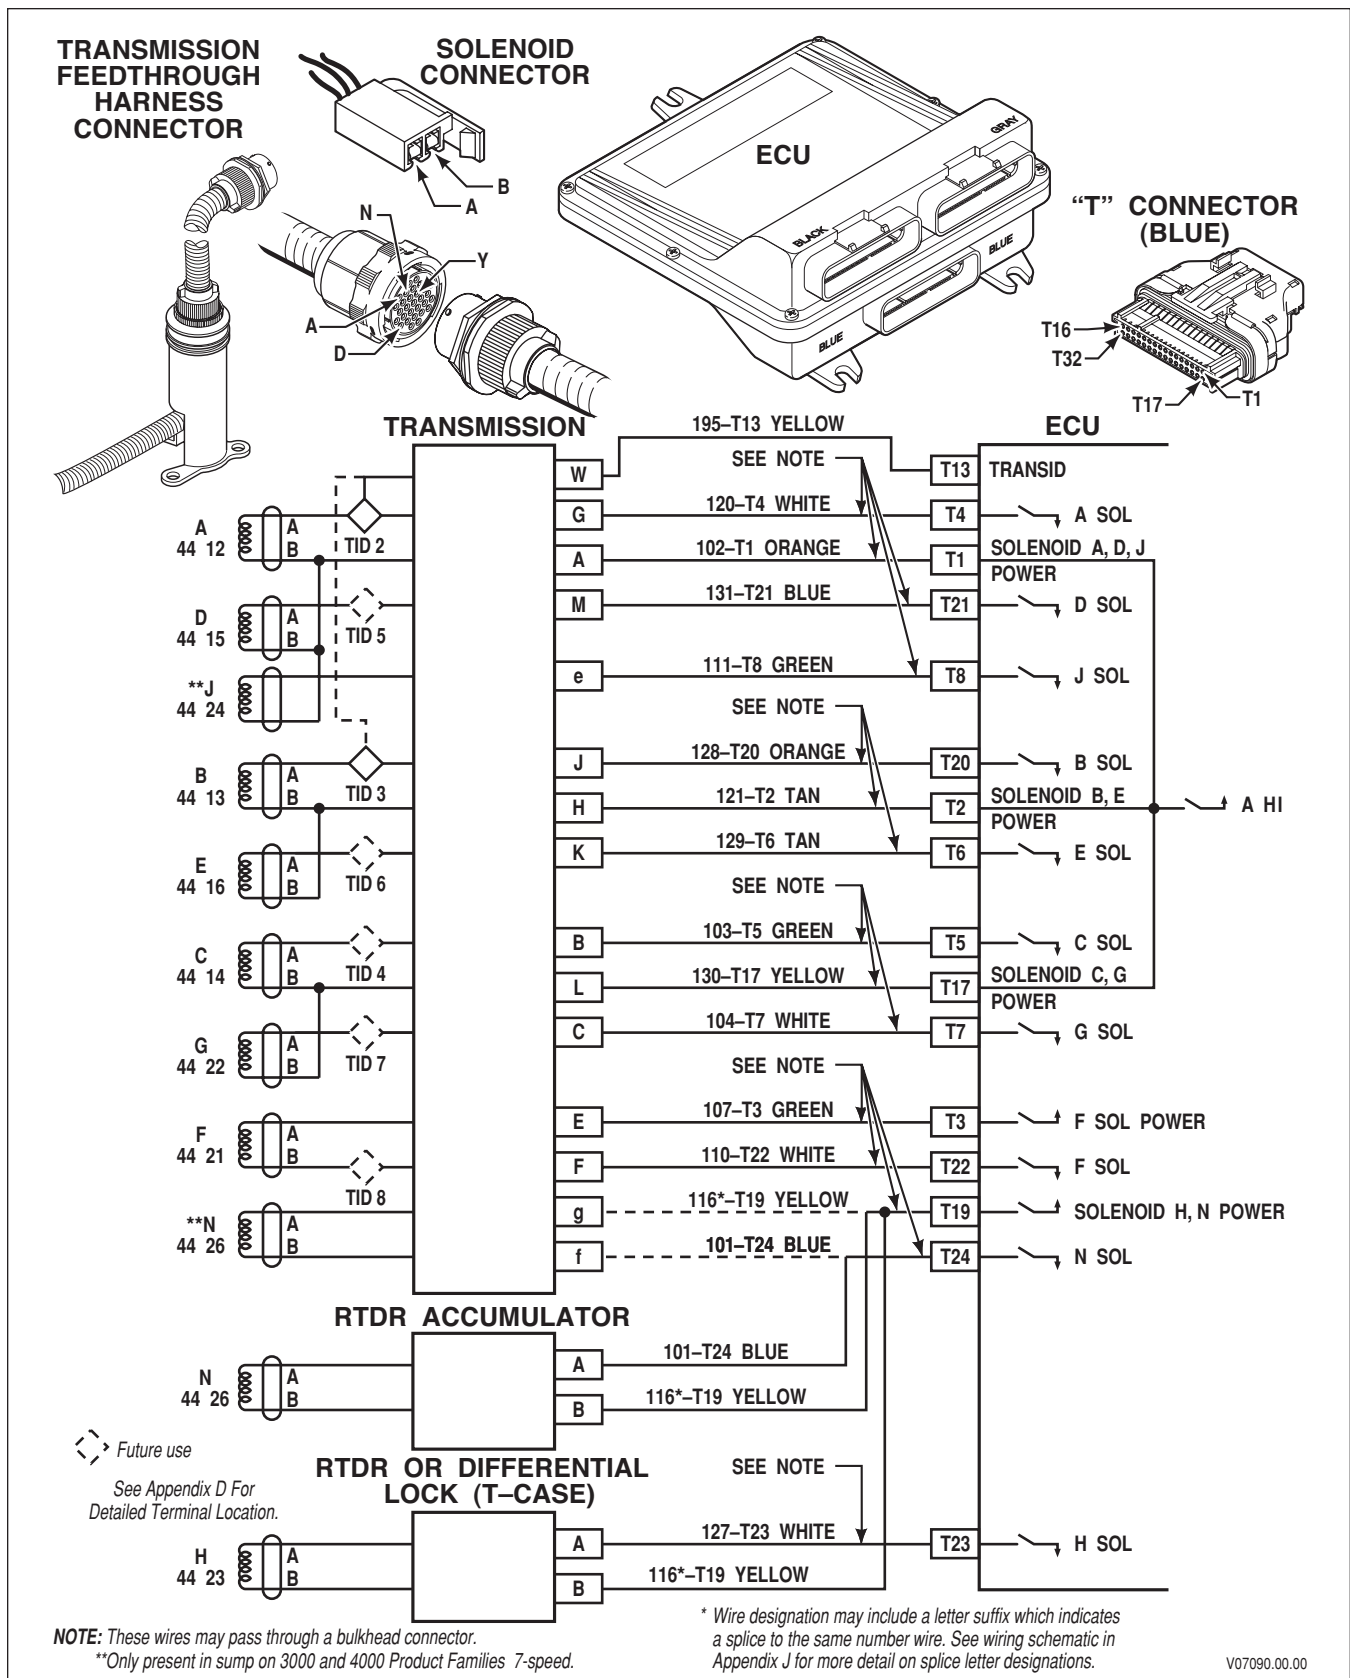

Figure 6-16. Code 44 Schematic Drawing
**CODE 44 XX—SHORT-TO-GROUND IN SOLENOID CIRCUIT** (Figure 6-16)**Figure 6-17. Solenoid Resistance vs. Temperature****B. Troubleshooting:**
**CODE 44 XX—SHORT-TO-GROUND IN SOLENOID CIRCUIT** (Figure 6-16)